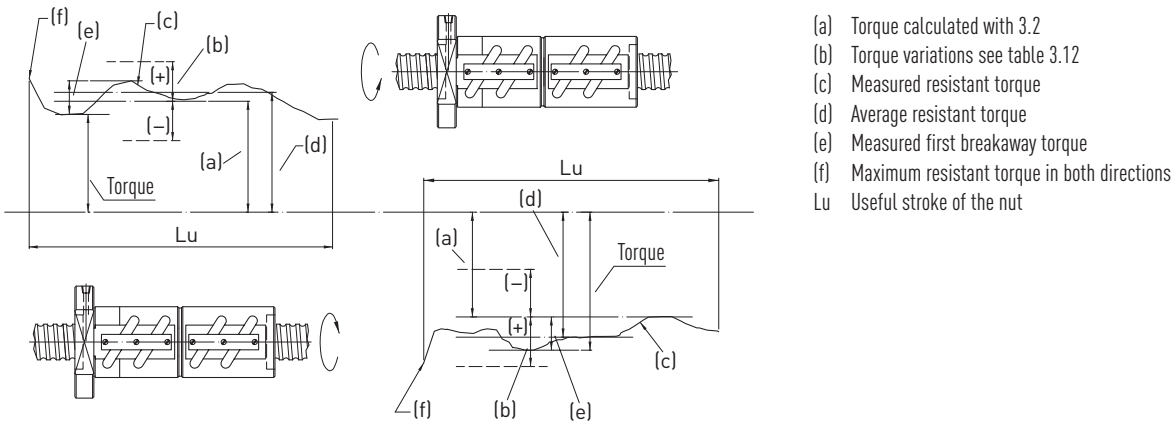

Fig. 3.21 Nomenclature for measuring resistant torques
The preload generates a frictional torque between the nut and the threaded shaft. This torque is measured by moving the threaded shaft at a constant speed while preventing the nut from rotating by means of a locking device (see Fig. 3.21).
(3) The measurement result is shown by the standard representation of the preload torque; the nomenclature is shown in Fig. 3.21